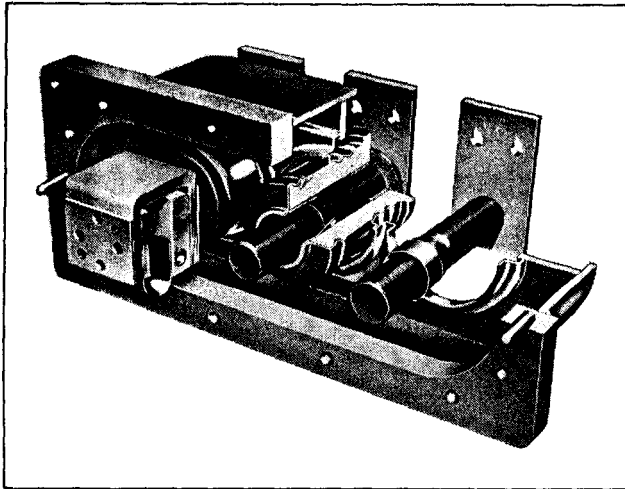

Fig. 1. Cut-away view of Type "RFW" Bushing
Inert-arc welded bushing, type "RFW" is of the type where the two seals of stud to bushing cap and bushing flange to mounting surface are by means of inert-arc welds. See Figure 1.
2. The design shown in Figures 1 and 2 is of the type where the porcelain only is removed and the bushing stud is used with the new porcelain. It is, therefore, not necessary to have access to the inside of the tank for disconnecting the stud.